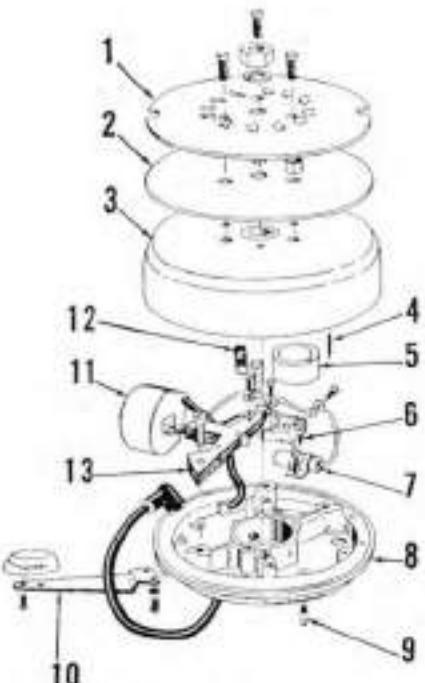

Fig. Mc2 — Exploded view of magneto assembly used on 3.6 horsepower motors.
angle (A), then tighten nut (N). When adjustment is correct, throttle valve will just begin to open as speed control lever (10—Fig. Mc2) is moved further to the "Fast" position.